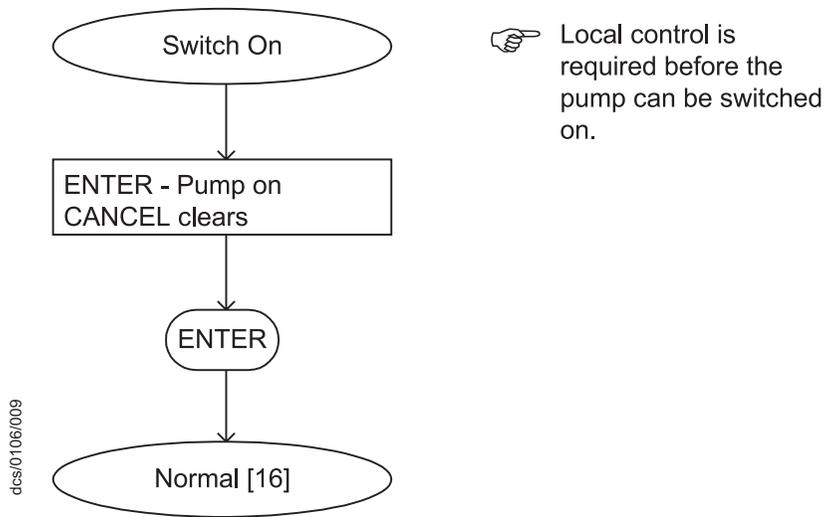

Figure 18 - Switch on Menu
- In the Switch On and Switch Off menus (Figures 18 and 19), when you press CANCEL, the menu is exited and the normal display is shown.